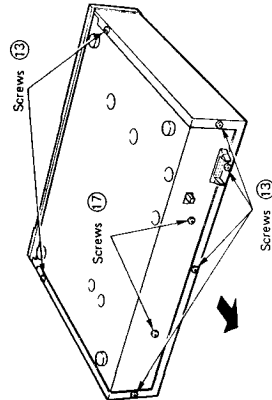

Fig. 11
- 1) Remove the six top cover fixing screws (13) as shown in fig. 11.
- 1) As shown in Fig. 11 loosen the two screws (17).